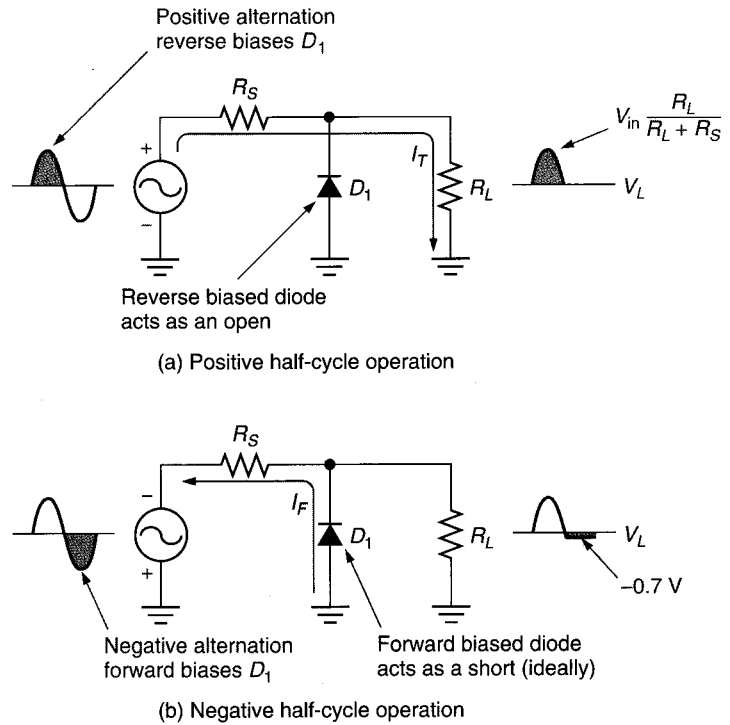

FIGURE 4.3 Shunt clipper operation.
The operation of the *shunt clipper* is exactly opposite that of the series clipper. The *series clipper* provides an output when the diode is forward biased and no output when the diode is reverse biased. The *shunt clipper* provides an output when the diode is reverse biased and shorts the output signal to ground when the diode is forward biased. This operation is illustrated in Figure 4.3.
The circuit shown in Figure 4.3 is a *negative shunt clipper*. When the diode in the negative shunt clipper is reverse biased, it is effectively removed from the circuit. This is shown in Figure 4.3a. With the diode reverse biased, the resistors form a voltage divider, and the load voltage can be found by
**Lab Reference:** The operation illustrated in Figure 4.3 is demonstrated in Exercise 5.